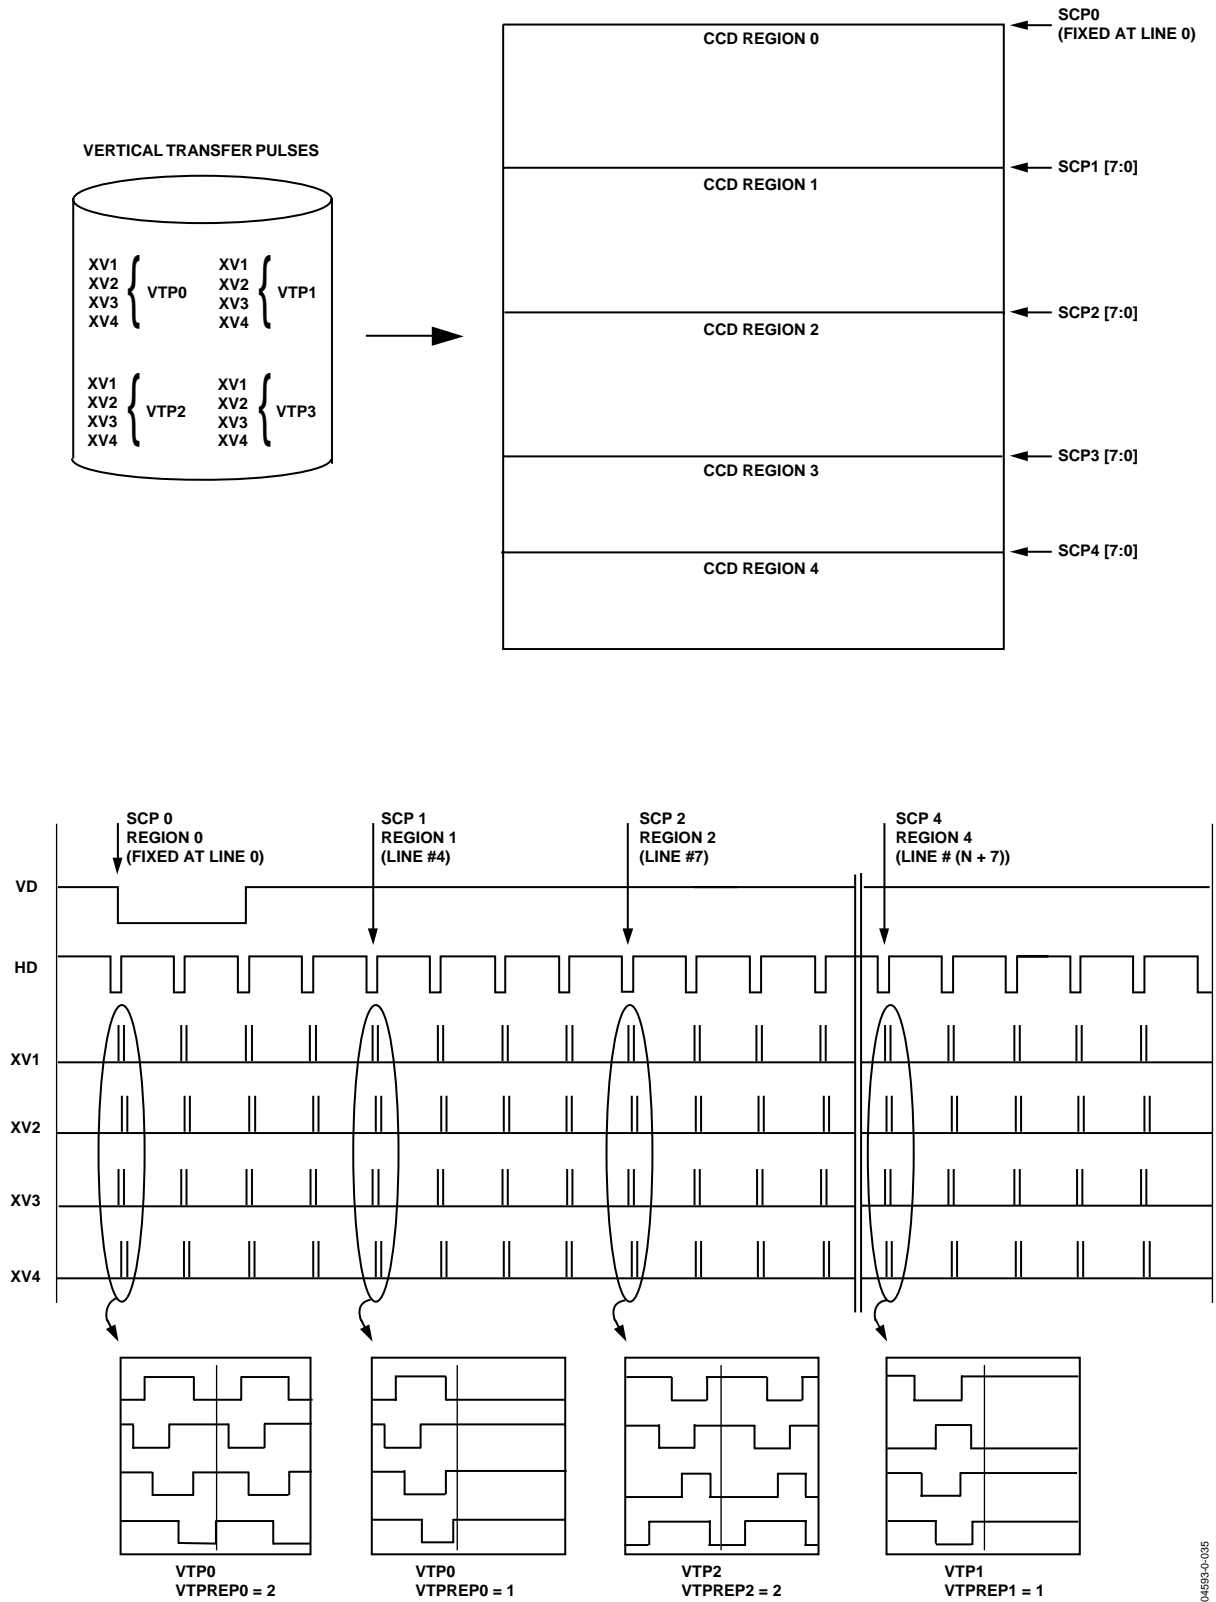

Figure 34. Steps 3 and 4: An Example of Building an Entire Field Readout by Assigning Sequences to Multiple CCD Regions
Figure 32 through Figure 34 provide an overview of how the vertical timing is generated in four basic steps.
Step 3: Output Vertical Sequences into CCD Regions (see Figure 34).
Step 4: Combining CCD Regions (see Figure 34).
The individual CCD regions are combined into a complete field readout by using sequence change position (SCP_x) pointers as described in Table 23. Figure 34 shows how each field is divided into multiple regions. This allows the user to change vertical timing during various stages of the image readout. The boundaries of each region are defined by the sequence change position (SCP). Each SCP is a 8-bit value representing the line number boundary region. A total of four SCPs allow up to five different region areas in the field to be defined. The first SCP0 is always hard-coded to line 0, and the remaining four SCPs are register programmable.
The special vertical sweep mode operation is only output in CCD Region 0 and CCD Region 3 (see Figure 34), as shown in Figure 37 and Figure 38. The SVREP_MODE register located at